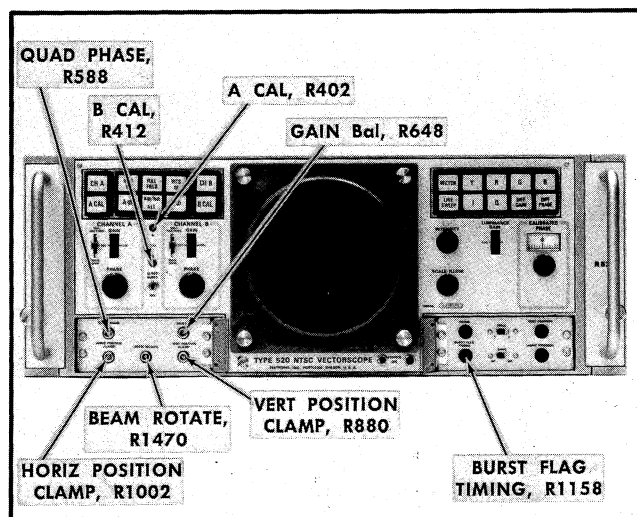

Fig. 5-2. Front-panel control locations.
d. ADJUST—BEAM ROTATE control, R1470, (see Fig. 5-2) until trace is parallel to the 0° - 180° axis of the vector graticule.
d. ADJUST—VERT POSITION CLAMP control, R880, (see Fig. 5-2) and HORIZ POSITION CLAMP control, R1002, (see Fig. 5-2) to position the spot to the center of the vector graticule.
c. ADJUST—A CAL control, R402, (see Fig. 5-2) until the display on the Type R520 is exactly 140 IRE units in amplitude.
- c. ADJUST—B CAL control, R412, (see Fig. 5-2) until the display on the Type R520 is exactly 140 IRE units in amplitude.
- f. ADJUST—BURST FLAG TIMING, R1158, (see Fig. 5-2) until the intensified rising and falling portions of the burst are equal.
- c. ADJUST—GAIN BAL control, R648, (see Fig. 5-2) until the test circle touches the inscribed circle on the vector graticule at all points on its circumference.
- e. ADJUST—QUAD PHASE control, R588, (see Fig. 5-2) until the test circles overlay each other at the 45° point on their circumference within 0.0366 inch.